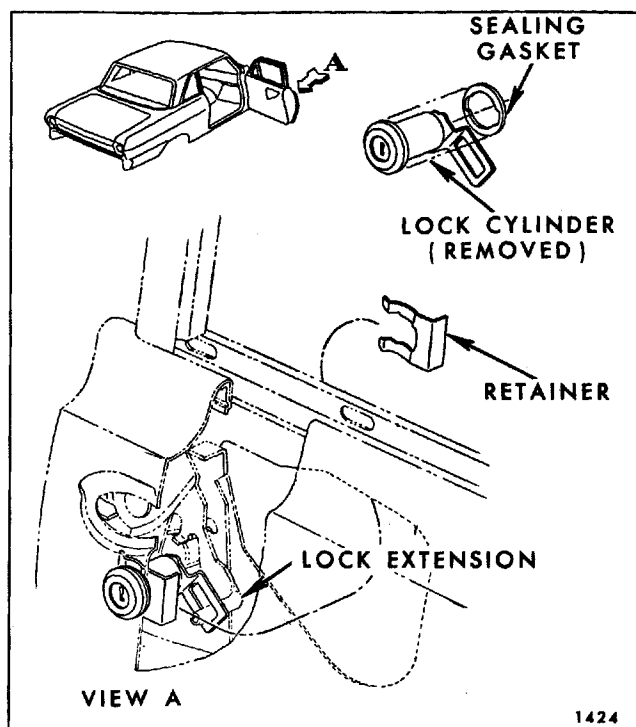

Fig. 7-61—Front Door Lock Cylinder Removal - "X" Styles Shown - Others Similar
2. With a screwdriver, or other suitable tool, slide lock cylinder retaining clip (on door outer panel) out of engagement and remove lock cylinder (see Fig. 7-61).